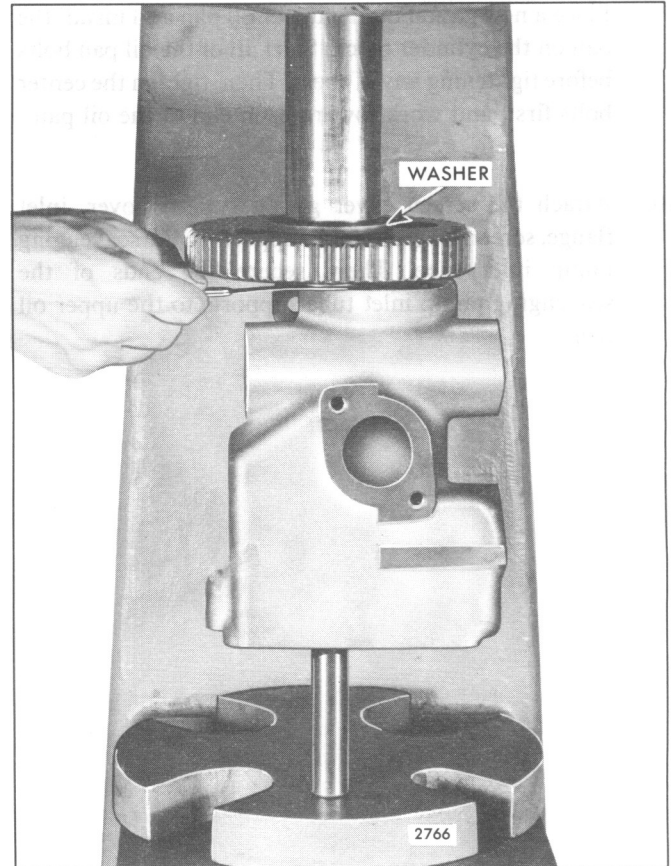

Fig. 16 – Installing Oil Pump Drive-Driven Gear on Shaft
6. Press the driven gear on the drive shaft until the clearance between the gear hub and the pump body is .010" (Fig. 16).